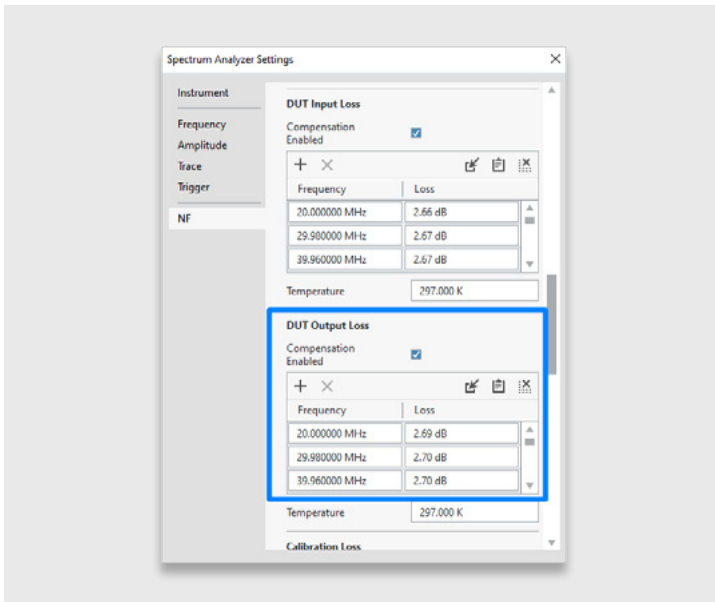

FIGURE 15
1. The second cable and 3 dB attenuator passing from DUT output to VSA input now needs to be de-embedded from the measurement. The frequency vs. loss file can be input in the **DUT Output Loss** table the same as the **DUT Input Loss** table from the previous step (see Figure 15).